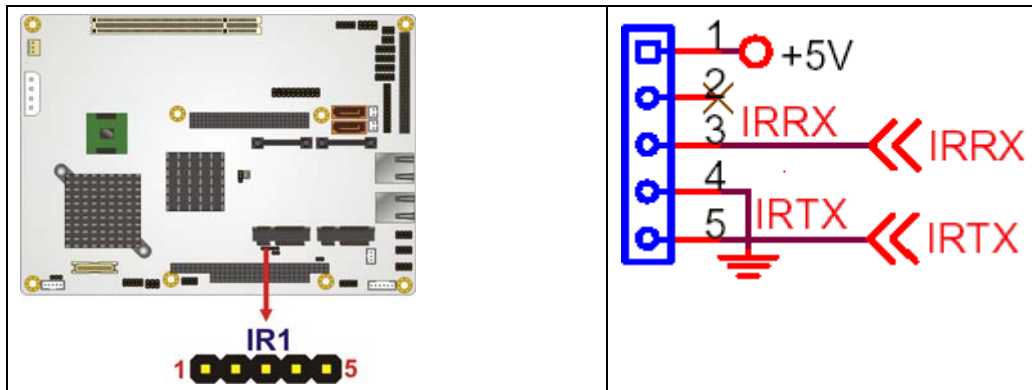

Figure 4-13: Infrared Connector Pinout Locations
- CN Location:** See **Figure 4-13**